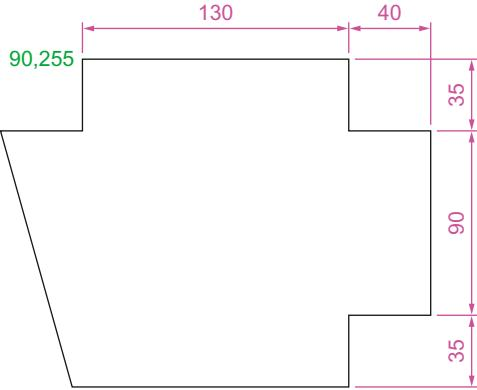

Fig. 2.17 First example – Erase. An incorrect outline
- With **Line** construct the outline Fig. 2.17.